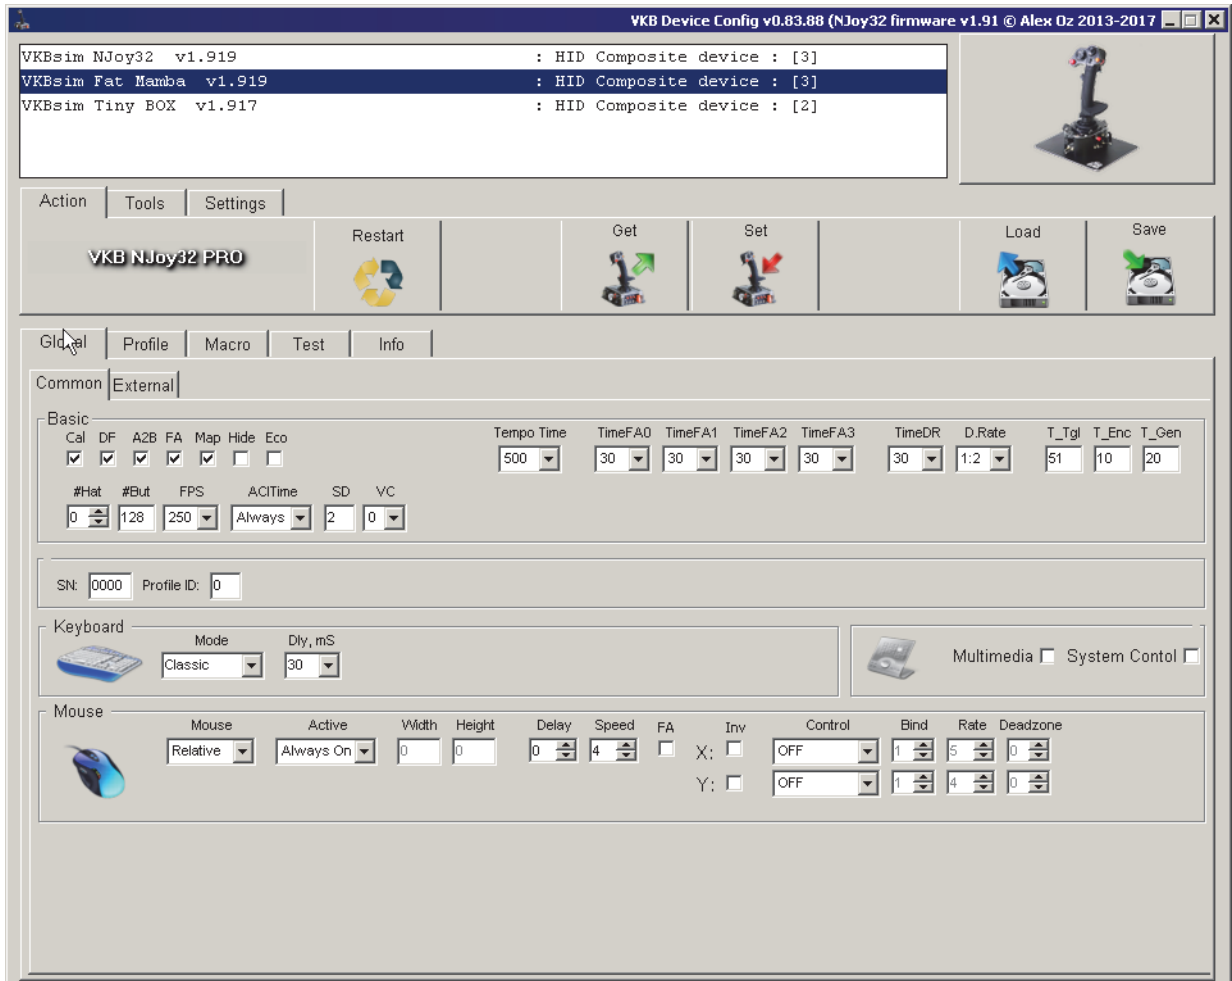

Fig. 2.1.
After you launch *VKBDevCfg-C.exe* the main **VKBDeviceConfig** window will appear. The title bar contains configurator version (Fig. 2.1).
2. Run *VKBDevCfg-C.exe*, select joystick name in the list (fig. 2.1 on p. 13).